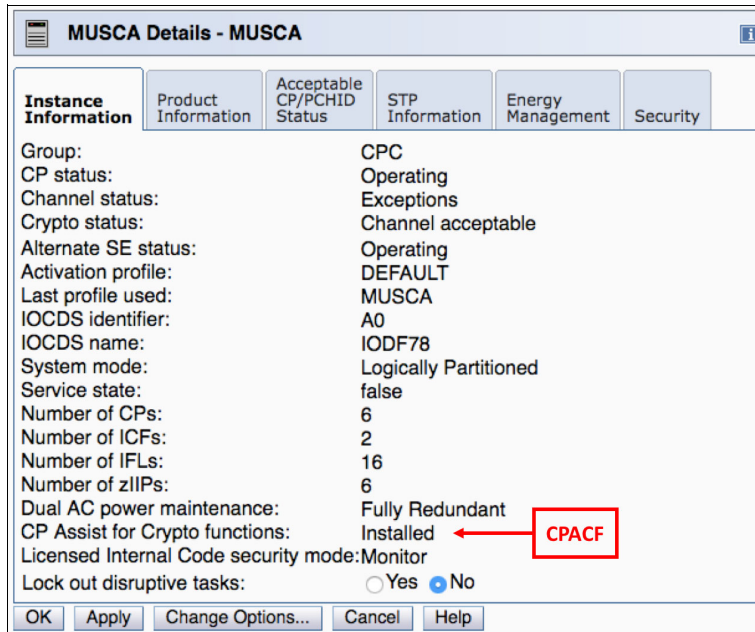

Figure 10-1 System details: CPACF installed
2. Open the **System details** menu of the CPC at the SE workplace. The system details window opens (see Figure 10-1 on page 221).